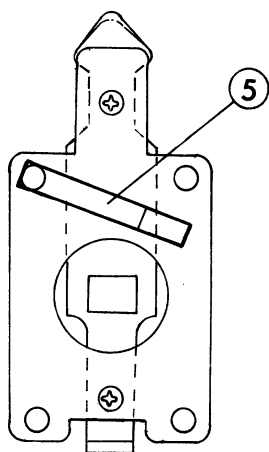

Fig 12
1. After checking no flaws and no distortion of (1), attach it with the (2) to the (3).
2. Attach (3)(5) with (17)x4 to (7). The attaching position of (5) is shown in Fig.12.